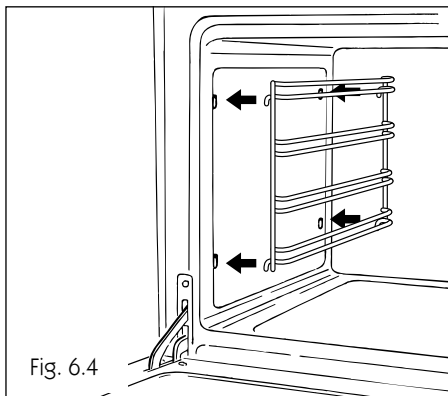

Fig. 6.4
- Fit the side runner frames into the holes on the side walls inside the oven (Fig. 6.4).